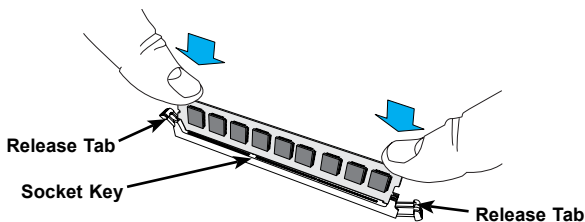

Figure 5-3. DIMM Installation
1. Insert the desired number of DIMMs into the memory slots, starting with slots DIMMA1. Pay attention to the notch along the bottom of the module to prevent inserting the DIMM module incorrectly. See Figure 5-3.